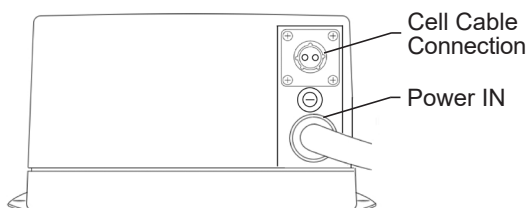

FIGURE 1
5. Align the Cell Cable Connector with the Power Pack Connector (**Figure 1**) and insert the cell cable.